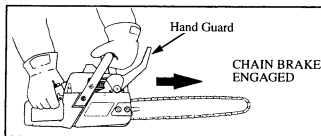

Figure 4
- A device for stopping the chain when activated. Figures 4 and 5.